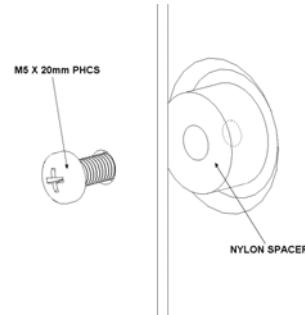

Figure 25. Spacer Installation for Group 8
- Place the Nylon spacers over the four mounting holes on your Large Flat Panel display (see Figure 25).